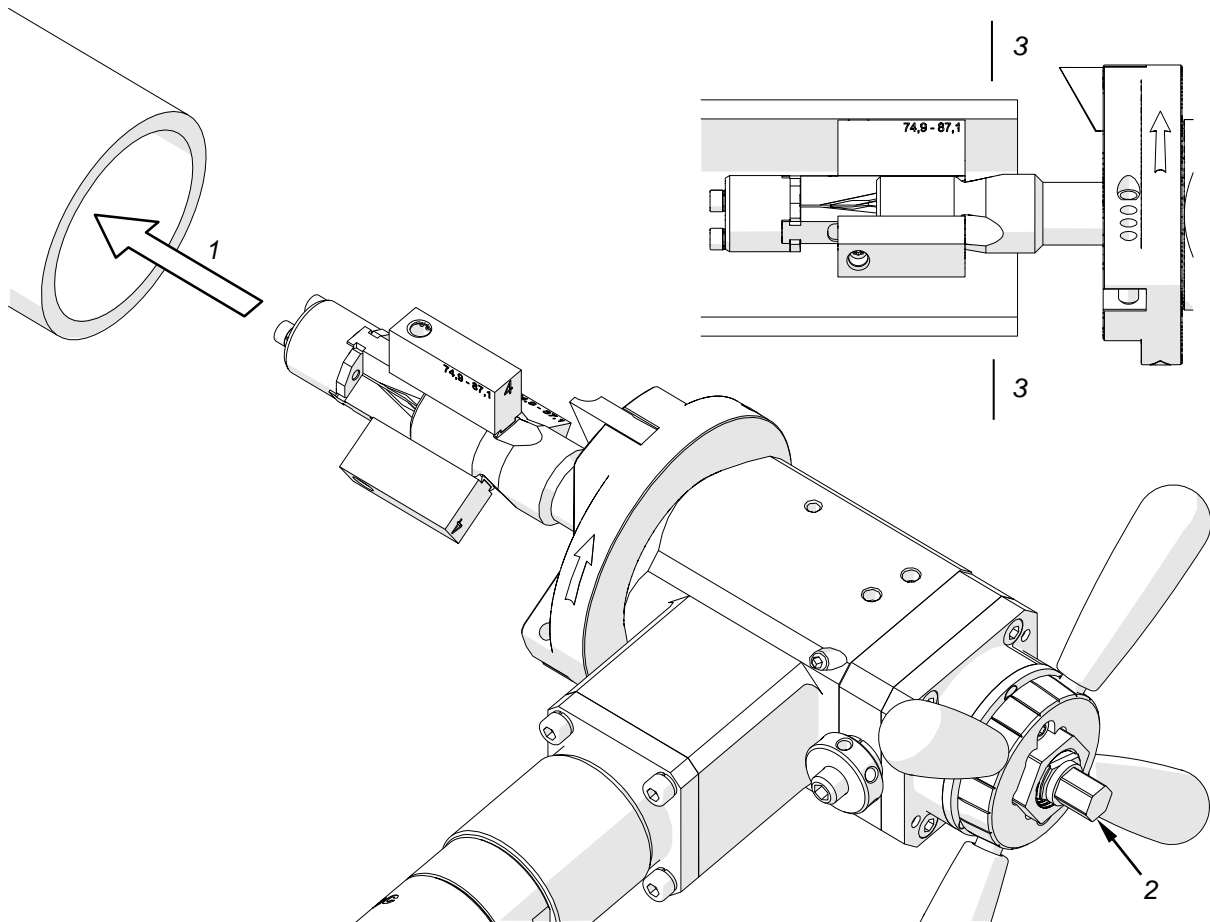

Fig. 5. Clamping the machine into the pipe
Put the machine into the pipe (1, Fig. 5) to set the tool bits at least 3 mm (0.12") from the pipe end. Then, use the 13 mm socket wrench to rotate the draw nut (2) to the right to expand the jaw blocks and clamp the machine into the pipe. Make sure that the jaw blocks are put further than the surface after machining (3).